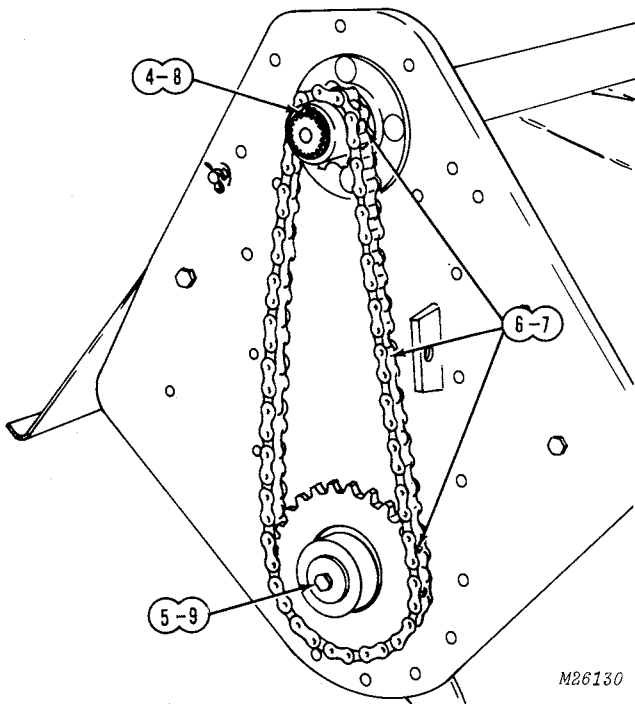

Fig. 11-Replacing Drive Chain and Sprockets
4. Remove retaining ring, Fig. 11.